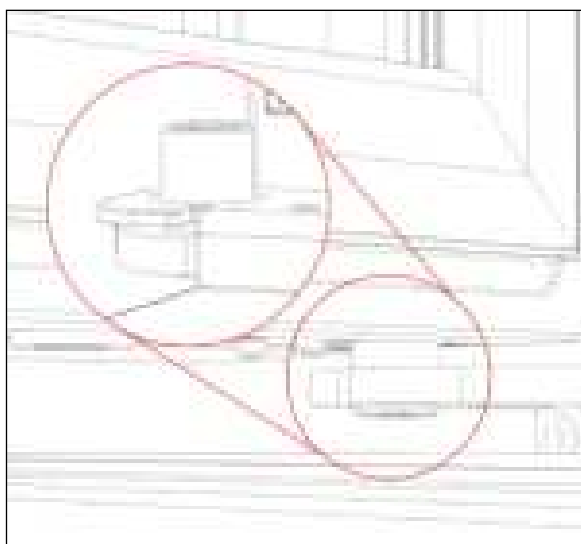

Figure 4
1. Position the right door at roughly 90° and insert the metal pin at the bottom of the door so it fits into the lower hinge receptacle (see *Figure 4*). Close the door.